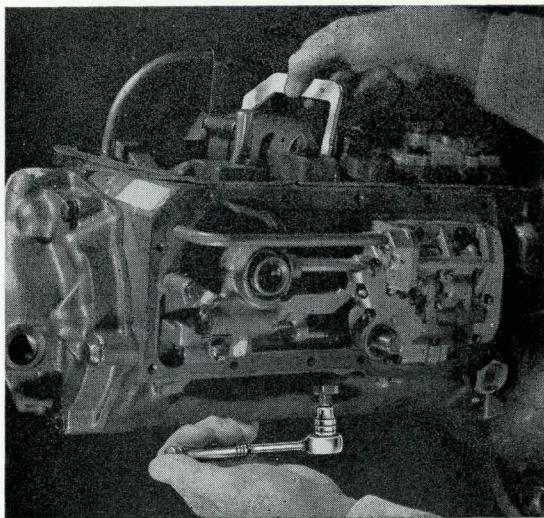

Figure 8
3. Tighten rear band adjusting screw with band adjusting tool until the face of band actuating lever just touches gauge. It is important that this step be done accurately. Fig. 8.